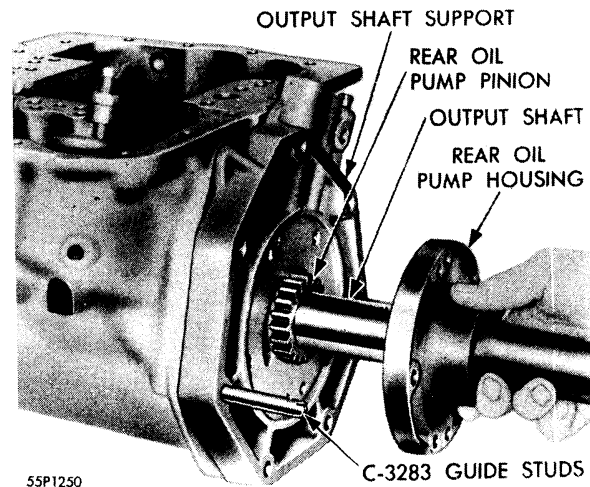

Fig. 63—Removal or Installation of Rear Oil Pump Housing
- (3) Remove governor valve shaft and valve from governor valve body assembly.
- (4) Using pliers, Tool C-760, remove governor weight assembly snap ring (large one) and remove governor weight assembly from governor body.
- (5) Remove governor locating screw from governor body and output shaft.
- (6) Slide governor body and support from output shaft.
- (7) Loosen the four governor body-to-support screws. DO NOT REMOVE.
- (8) Remove the five rear oil pump housing-to-output shaft support screws and lockwashers. Remove housing and oil pump gear as shown in Figure 63. Use Prussian blue to mark front side of gear in housing. Do not use scribe. Inspect machined surfaces for nicks and burrs, oil pump gear and housing for being scored or pitted, and pump housing plug for leaks.